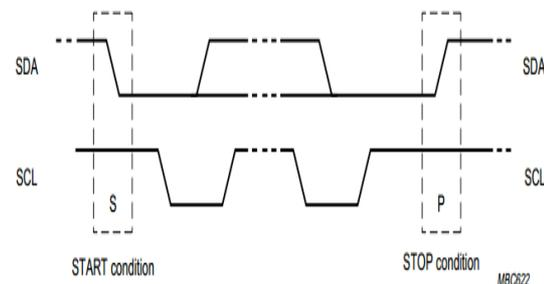

Fig.3 Connection of Standard-mode and Fast-mode devices to the I²C Bus
Within the procedure of the I²C Bus, unique situations arise which are defined as START (S) and STOP (P) conditions (see Fig.3)